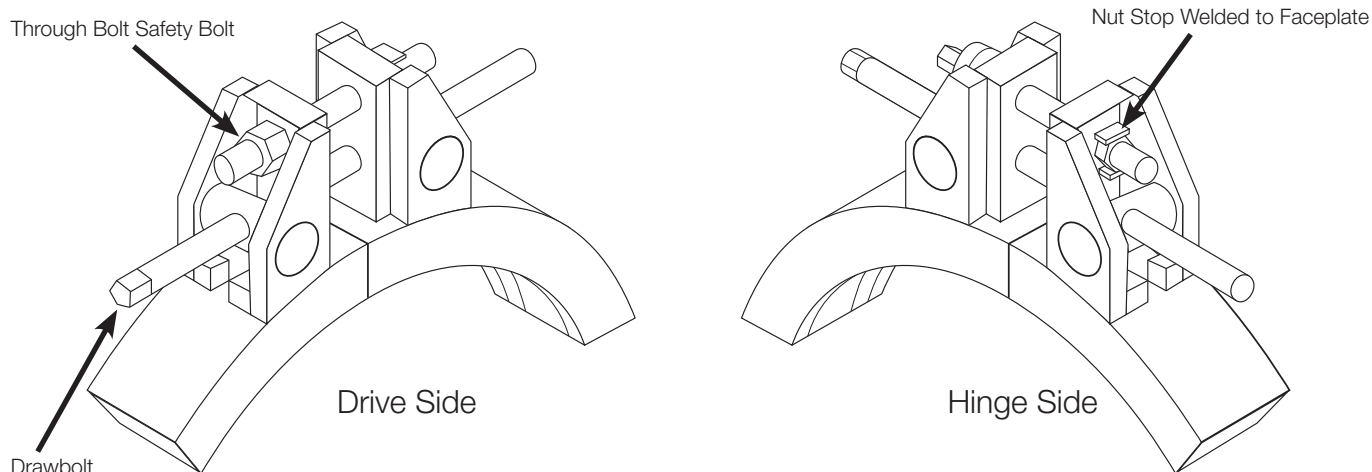

Figure 7: QOC2 or QOC3 with Through Bolt for Safety Bolt
4.3.2 Most QOC2 or QOC3 models have a Safety Bolt that has a hex head on one end and a standard nut on the other end. It is important to check the nameplate as seen in Figure 3 above, as some smaller QOC2 or QOC3 models may have standard through bolts as seen in Figure 7 below.